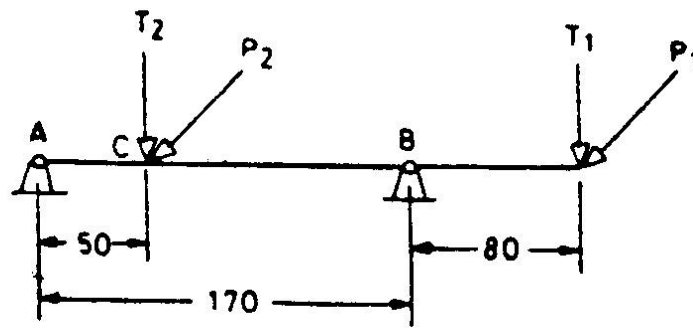

Fig 1 Diagram of lathe spindle
- Q.4** (a) Fig 1 shows a schematic diagram of a lathe spindle and the other data are as under: **09**